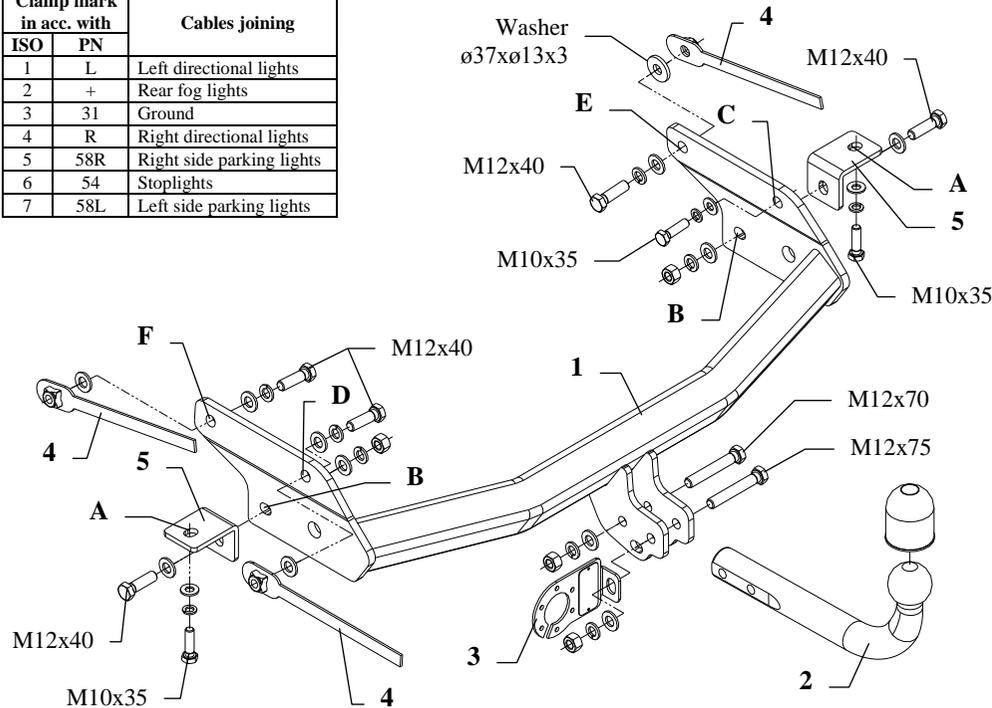

Fig. 1
3. Between installed angle bars put the main bar of the towing hitch (pos. 1) and fix using bolts M12x40mm (pos. 8) through holes (pos. B).
4. On the right side insert bolt M10x35mm in point (pos. C). On the left side insert bolt M12x40mm through hole (pos. D), use nut on the jib (pos. 4). Position the towing hitch horizontally. Drill holes (pos. E and F) in chassis members using bit ø13mm.
5. Fix the main bar of the towing hitch through holes (pos. E and F) using bolts M12x40mm and nuts on the jibs (pos. 4). On the left side remember about big washer ø37xø13x3mm (pos. 10), see figure 1.
6. Fix tow-ball (pos. 2) with socket plate (pos. 3) using bolts M12x75mm (pos. 6) and M12x70mm (pos. 7) from accessories.